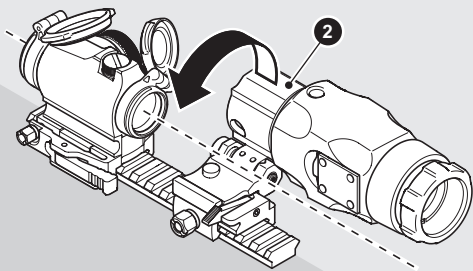

Fig. 5 Align the FlipMount top with the optical axis
- Align the FlipMount with the optical axis of the sight by pushing it towards the sight until it snaps into place (see Fig. 5).